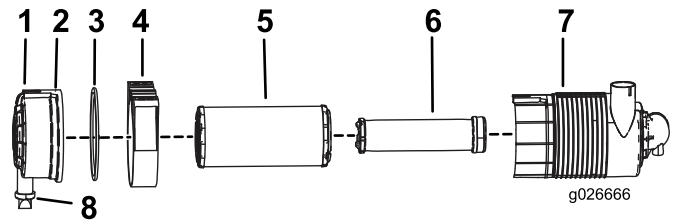

Figure 25
3. Release the latches on the air cleaner, and pull the air-cleaner housing off the air cleaner body (Figure 25).
1. Gently slide the primary filter out of the air cleaner body (Figure 25).